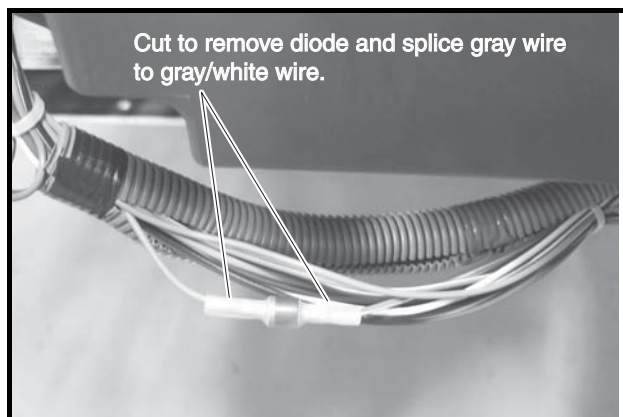

Figure 13-11 Remove Diode
2. Remove the diode from the gray/white and gray wires as indicated (**Figure 13-11, Page 13-14**).